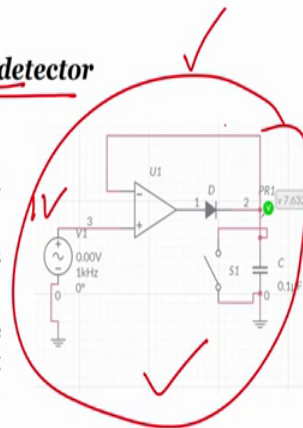

Figure 4
- Connect the circuit as shown in the Figure 4
So, to study the work the study the working of peak detector that is our aim right. First is we can correct the circuit as shown in figure 4, it is exactly similar circuit this is the nothing, but if you if you connect it then the you can you can connect the capacitor directly to the you can short the capacitor to the ground.